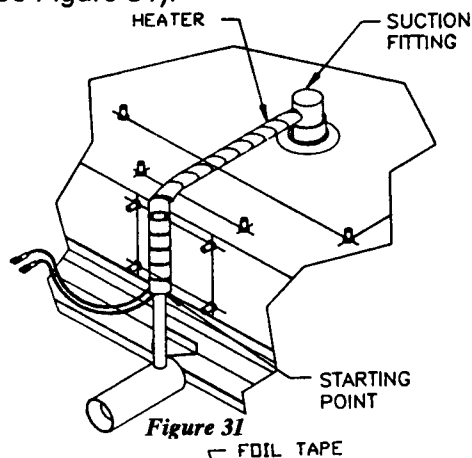

Figure 31
3. Remove foam insulation, foil tape, and old heater (See Figure 31).
4. Attach new heater to pan suction tube with a piece of foil tape at starting point (see Figure 31).
5. Wrap heater around pan suction tube toward suction fitting in a spiral pattern (see Figure 31).